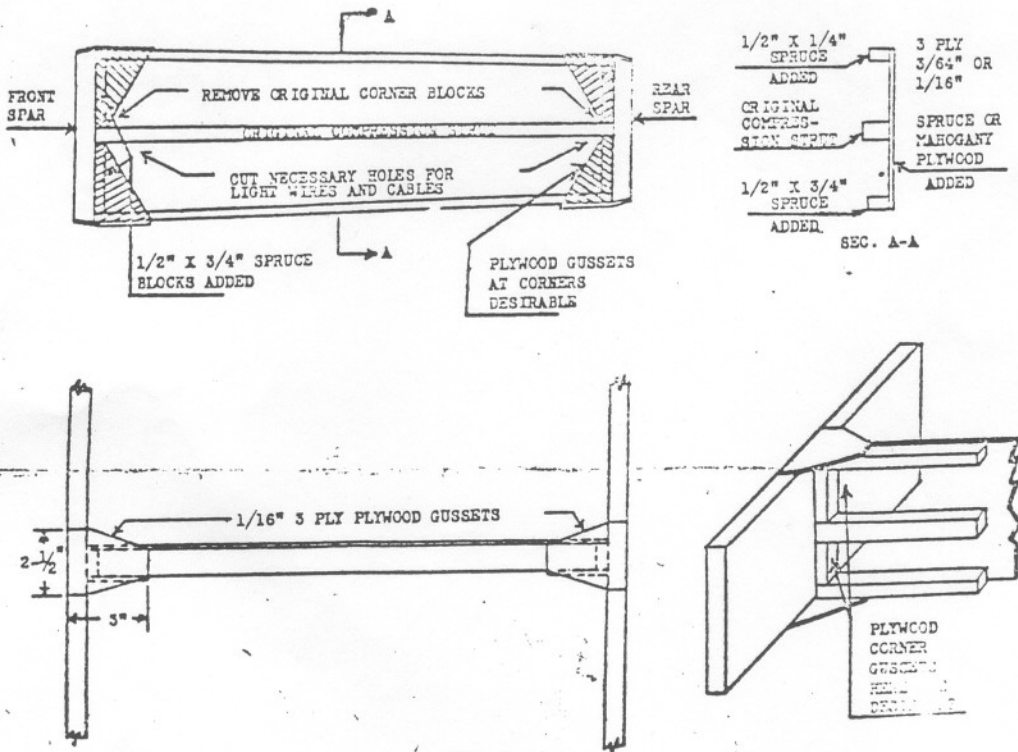

FIG. 1
(1) Reinforce the wing compression struts located at the aileron hinge points. Figure 1 below illustrates the reinforcement and its installation.